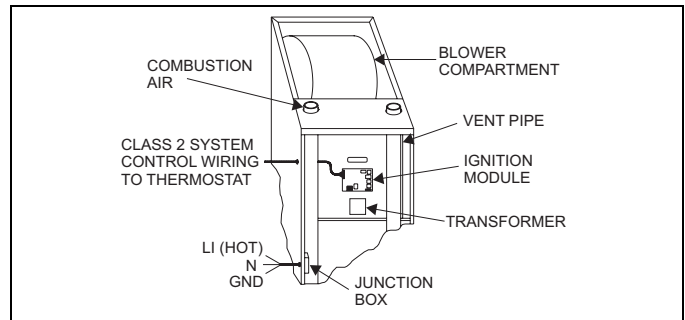

FIGURE 10: Electrical Wiring
- Remove the screws retaining the wiring box cover. Route the power wiring through the opening in the unit into the junction box with a conduit connector or other proper connection. In the junction box there will be three wires, a Black Wire, a White Wire and a Green Wire. Connect the power supply as shown on the unit-wiring label on the inside of the blower compartment door or the wiring schematic in this section. The black furnace lead must be connected to the L1 (hot) wire from the power supply. The white furnace lead must be connected to neutral. Connect the green furnace lead (equipment ground) to the power supply ground. An alternate wiring method is to use a field provided 2" (5.08 cm) x 4" (10.2 cm) box and cover on the outside of the furnace. Route the furnace leads into the box using a protective bushing where the wires pass through the furnace panel. After making the wiring connections replace the wiring box cover and screws. Refer to Figure 10.